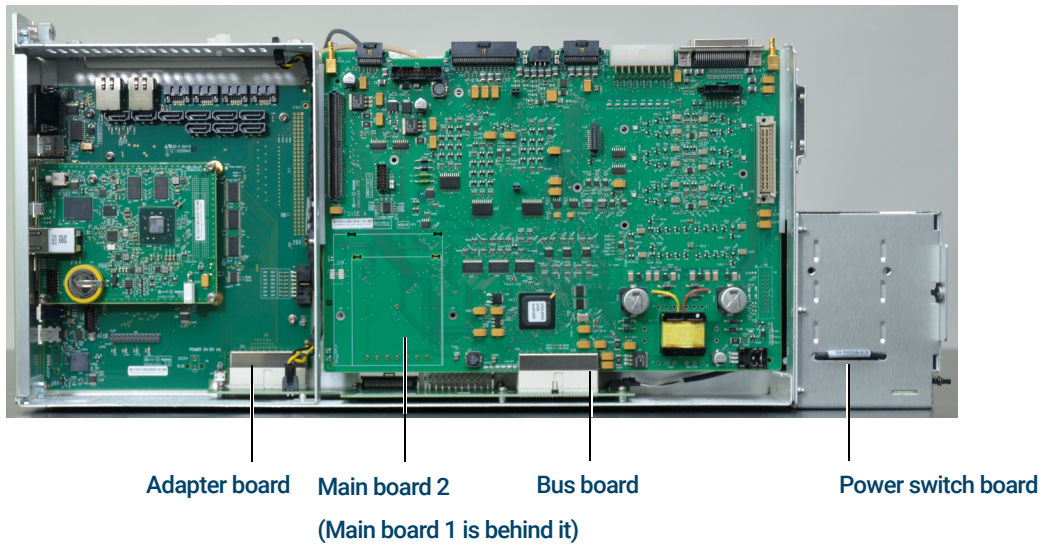

Figure 47. Electronics module, side 2
- Main Board 2 (See **Figure 47** on page 181.)
- Bus board (See **Figure 47** on page 181.)
- Adapter board (See **Figure 47** on page 181.)
- Power switch board (See **Figure 47** on page 181.)